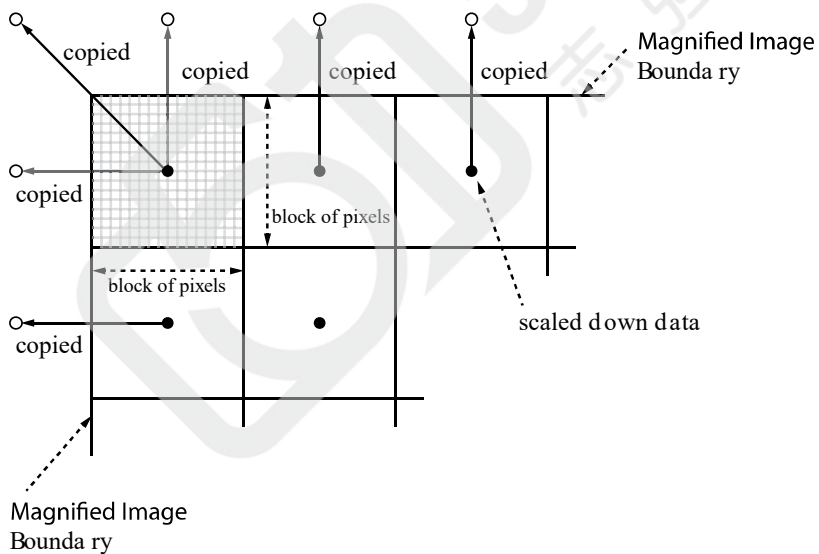

Figure 9-9 Bilinear Interpolated Magnification
4. Execute the Flat Field Data Save parameter to save the generated Flat Field correction data into the non-volatile memory. The scaled-down Flat Field correction data will be expanded and then applied as shown in the Figure 9-9 when it is used for correction.